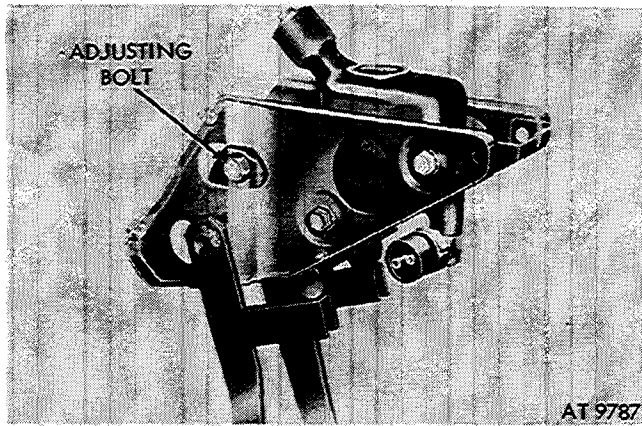

Figure 2-366. Position of eccentric adjusting bolt.
- (1) Maintain fluid level in master cylinder at bottom of threads.
- (2) Keep vent hole in master cylinder filler plug open.
- (3) Make sure all brake line connections are securely tightened and leakproof.
- (4) Replace scored brakedrums.
- (5) Replace worn or oil saturated brakeshoe and lining assemblies (para 2-173).
- (6) Adjust service brakes (*b* below) when pedal pad travel is within two inches of floor pan when brake pedal is in applied position.
b. *Brake Pedal Free Travel Adjustment.* Brake pedal free travel of  $\frac{1}{4}$  inch must be maintained. To check brake pedal free travel, depress brake pedal by hand until resistance is encountered. The resistance indicates engagement of the push rod in the master cylinder. Brake pedal free travel is measured from this point to the position of the brake pedal at rest. To adjust, loosen locknut on eccentric adjusting bolt (fig. 2-366). Turn eccentric bolt until brake pedal free travel is  $\frac{1}{4}$  inch. Torque eccentric bolt locknut to 10-15 lb-ft. and again check distance of free travel.